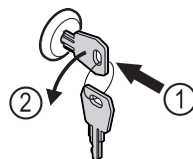

Fig. 174
- Insert the key. Fig. 174 (1)
- Turn the key anticlockwise by 90°. Fig. 174 (2)